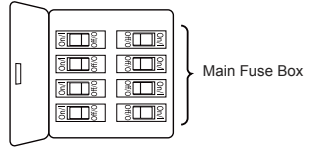
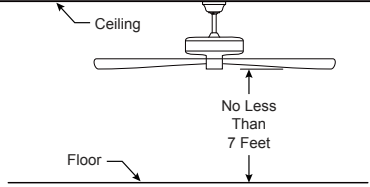
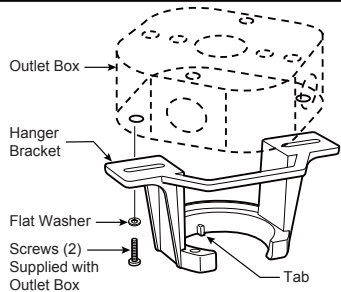

Figure 1
Figure 2
Figure 3
Your new ceiling fan will require a grounded electrical supply line of 120 volts AC, 60 HZ, 15 Amp Circuit. Electrical code requires use of a fan-rated outlet box to support the extra weight and motion associated with a ceiling fan. A fan-rated box will be labeled as such and typically supports up to a 70lb ceiling fan. Fan-Rated Outlet Boxes vary in ratings and design. Ensure the ratings of your ceiling fan outlet box meet the requirements for the ceiling fan being installed. Figure 1, Figure 2 and Figure 3 depicts different structural configurations that may be used for mounting the outlet box.
Low profile box (Figure 1)
Deep box (Figure 2)
Deep box with brace (Figure 3)
1. Remove and discard the three rubber/screws motor stops from the motor assembly. (Figure 1)
2. Remove the hanger ball portion from the downrod/hanger ball assembly by loosening the set screw in the hanger ball until the ball falls freely down the downrod. Remove the pin from the downrod, then remove the hanger ball. Retain the pin and hanger ball for reinstallation in Step 7. (Figure 2)
3. Remove the hairpin clip and clevis pin from the bottom of the downrod. Retain the pin and clip for reinstallation in Step 5. (Figure 3)
1. Secure the three blades using the 1/4"-20 pan head screws with lock washer and blade plates from the hardware bag. Then through the holes located on the bottom of the motor assembly. (Figure 1)
To avoid possible fire or shock, be sure electricity is turned off at the main fuse box before hanging. (Figure 1)
The fan must be hung with at least 7' of clearance from floor to blades. (Figure 2)
- Securely attach the hanger bracket to the outlet box (not included) using the outlet box screws and washers supplied with the outlet box. (Figure 3)
- 1. To set the code on receiver unit, slide dip switches to the same positions as set on the remote control. (Figure 1)
To avoid possible electrical shock, be sure electricity is turned off at the main fuse box before wiring. (Figure 2)
- 2. Slide the receiver into the hanger bracket before wiring as shown in figure 3.
1. Assemble canopy by rotating key slot in canopy over shoulder screw in hanger bracket, taking care not to pinch the wires. Tighten shoulder screw. Fully assemble and tighten second shoulder screw that was previously removed. (Figure 1)
2. Securely attach and tighten the canopy screw cover over the shoulder screws in the hanger bracket utilizing the key slot twist-lock feature. (Figure 2)
1. Connect the 2 pin connectors from the light kit assembly to the 2 pin connectors from the motor assembly. (Figure 1)
- 2. Secure the light kit assembly to the motor assembly by twisting in a clockwise direction. (Figure 2)
- 1. IMPORTANT: Using a full range dimmer switch (not included) to control fan speed will damage the fan. To reduce the risk of fire or electrical shock, do not use a full range dimmer switch to control the fan speed. (Figure 1)
- 2. Restore electrical power to the outlet box by turning the electricity on at the main fuse box. (Figure 2)
- 3. Remove the battery cover from remote control by screwdriver and retain the screw for later. (Figure 3)